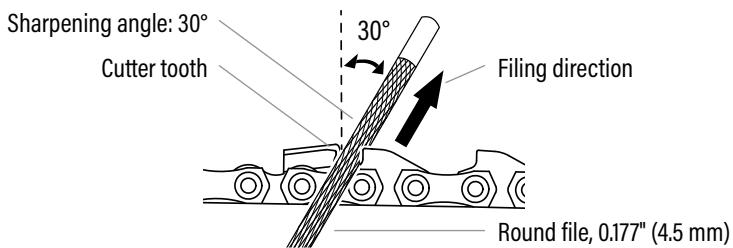

Fig.10
5. Maintain a 30° sharpening angle between the file and the saw chain (Fig. 10). Always use a file holder (sold separately) to ensure proper angle; file holders typically include angle markings.